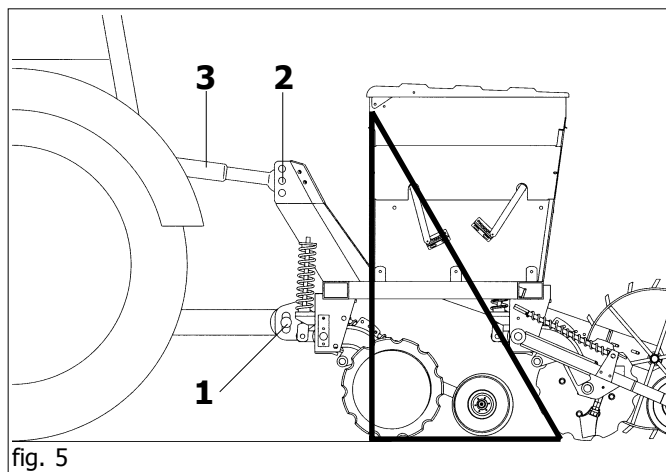

fig. 5
- 1) Hook the lifter bars on the preset pins (1 fig. 5). Block with the snap split pins.
- 2) Connect the third upper point (2 fig. 5); the pin will be blocked with the appropriate split pin; use the adjustment tie-rod (3 fig. 5) to keep the seeder parallel to the ground.